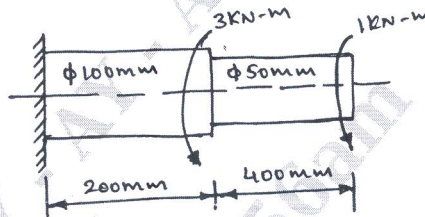

Fig.Q6(b)
b. A solid stepped bar of circular c/s shown in Fig.Q6(b) is subjected to a torque of 1 kN-m at its free end and torque of 3 kN-m at its change in c/s section. Determine the angle of twist and shear stress in the bar. Take $E = 2 \times 10^5 \text{ N/mm}^2$, $G = 7 \times 10^4 \text{ N/mm}^2$.